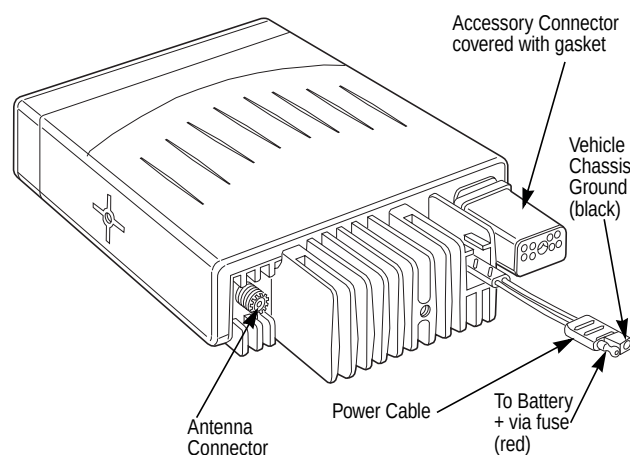

Figure 2-4. 30 W & 35 W Connections to Radio Rear Panel
7. Connect the antenna cable connector to the radio antenna connector on the rear of the radio. See Figure 2-4.
10. To complete your radio installation, plug the power cable into the radio power cable. Refer to Figure 2-4.
7. Insert the external speaker accessory plug into the accessory connector of radio. Refer to Figure 2-7 for 12 W and 15 W radios or Figure 2-4 for 30 W and 35 W radios.